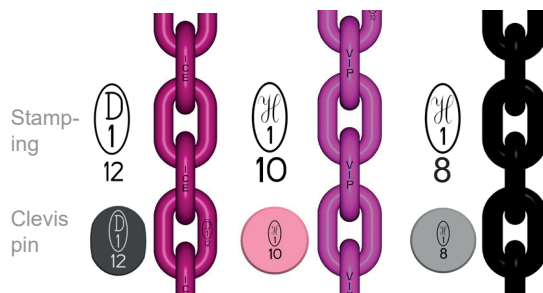

Fig. 4: Overview of chains
- Grade of the component (Fig. 4)